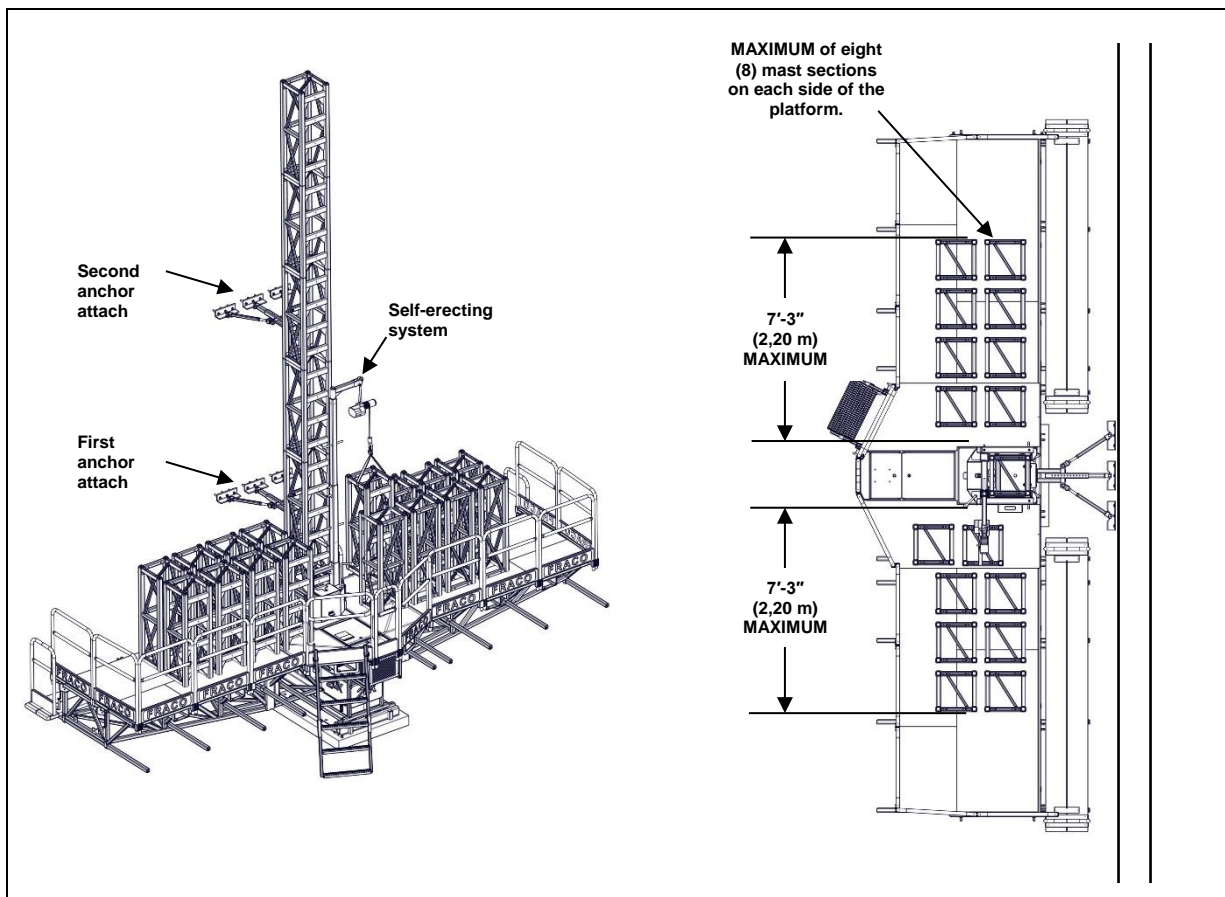

Figure 76 - Installation of masts and anchors on a ground base, self-erecting (optional)
- If you are using a self-erecting system (**optional - self-erecting system**), go to **Step 4**, (see Figure 76).
- Then install the self-erecting system and load up to eight (8) mast sections on each side of the platform [sixteen (16) sections per platform]. Attention, it is important to always equally load the platform on both sides as shown in (Figure 76).
- Load up to a **MAXIMUM** of eight (8) mast sections on each side of the platform. Attention, it is important to also load the platform on both sides.
- Unbolt and remove the mast sections using the self-erecting system following the same instructions as for the installation (see Figure 76). Load equally on each side of the platform up to **MAXIMUM** eight (8) mast sections at a time (sixteen [16] sections per platform **MAXIMUM**).
- Continue disassembling until only the first two (2) anchor devices remain.